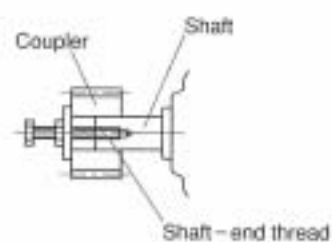

Fig. 3
- Shrink fit or shaft-end thread is recommended for mounting (Fig. 3)